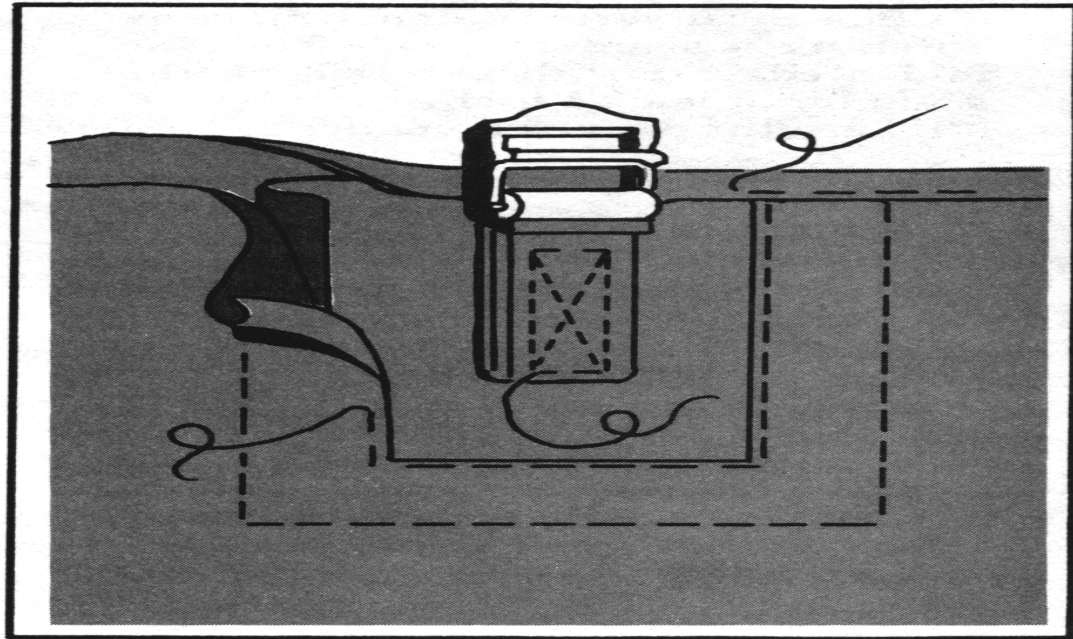

Figure 9-13. Single-thickness patch
(1). Single-thickness. The single-thickness patch (Figure 9-13) is made of one layer of canvas. It is used when the strain on the strap is slight and there is little chance of the patch being pulled loose. To make a single-thickness patch--